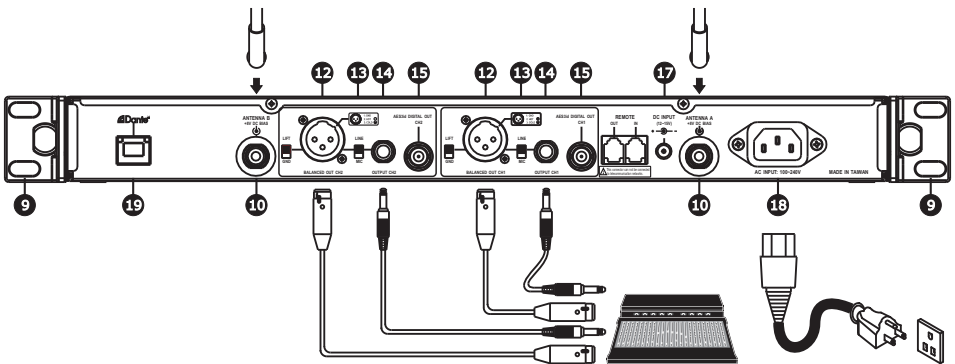

Fig. 2
1. Connect two antennas to each of the antenna connectors **10** on the rear panel, Fig. 2.
- (A) Connect the power cord to the receiver optional AC power input socket **18** and plug the other end into an AC 100~240V power source, Fig. 2.